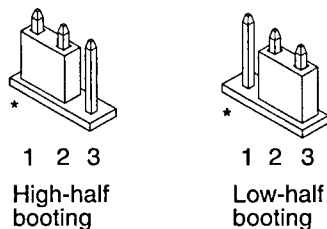
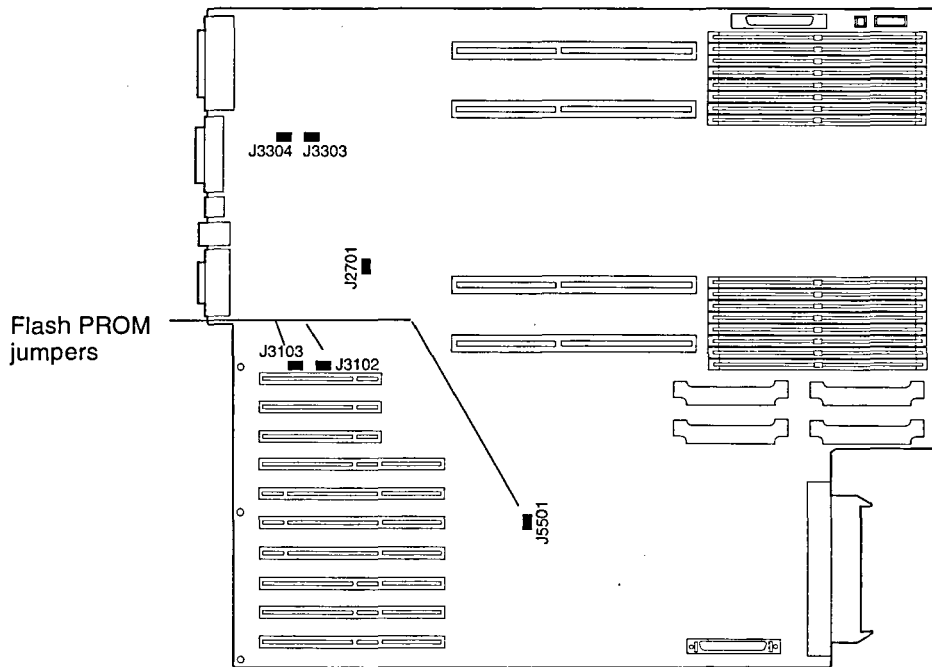

FIGURE 4-7 Setting the Boot Control Jumper to Low-Half Booting or High-Half Booting
FIGURE 4-8 Flash PROM Jumpers on the Sun Enterprise 450 System and the Sun Ultra 450 Workstation
2. If output cannot be found on any of the installed frame buffers or serial port A, set the boot control jumper to boot from the half of the PROM that is not currently selected. See FIGURE 4-1 FIGURE 4-2, FIGURE 4-3, FIGURE 4-7, and FIGURE 4-8. An asterisk (*) on the main logic board notes the location of pin 1.
- If the jumper is set for high-half booting, move it to low-half booting (pins 2 and 3 jumpered). See FIGURE 4-7.
- If the jumper is set for low-half booting, move it to high-half booting (pins 1 and 2 jumpered). See FIGURE 4-7.
Three jumpers on the main logic board affect flash PROM operation. FIGURE 4-8 shows the jumper locations, and TABLE 4-6 describes their functions.